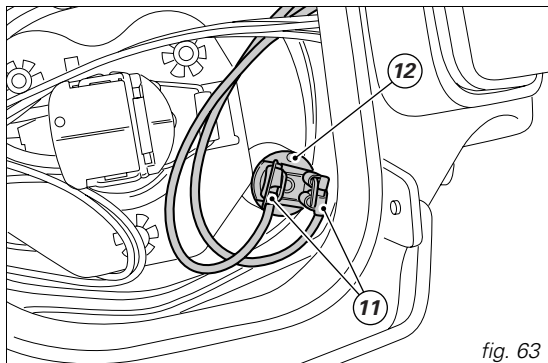

fig. 63
Disconnect the connectors (11) from the terminals (fig. 63).